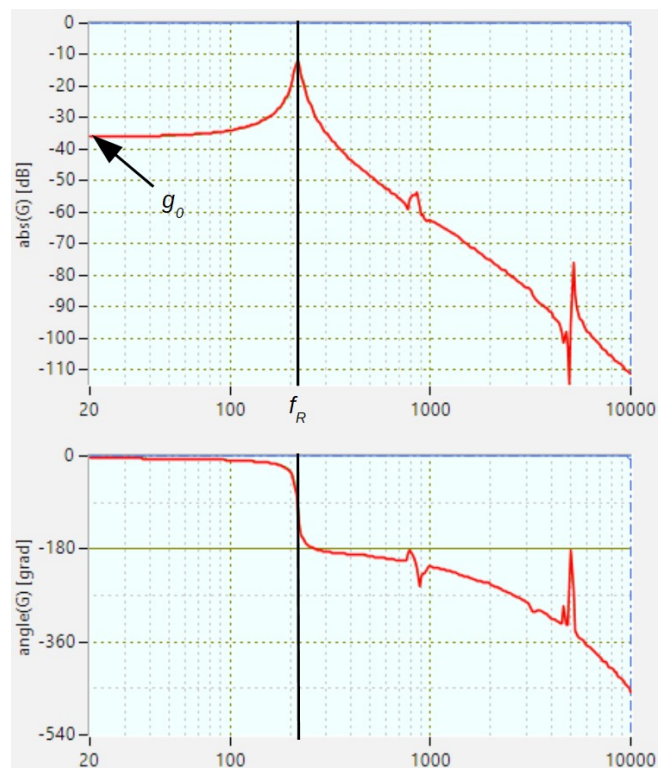

Figure 5: Typical Bode measurement of the rotational axis of a stiff gantry with a gain  $g_0$  of -36dB and resonance frequency  $f_R$  of 218Hz.
Stiff gantries show a different characteristic for the rotational axis which resembles to a spring mass system (see Figure 5). Depending on the relation between the resonance frequency  $f_R$  and the desired bandwidth of the controller  $f_B$ , a different approach for the tuning has to be used:
- If the resonance frequency  $f_R$  is in range of the desired bandwidth  $f_B$ , the settings according to equation 7 are recommended as an initial approach. Use the **Additive, Gain** structure for the controller in this case. See Figure 5 on how to determine the values for the gain  $g_0$  and resonance frequency  $f_R$ .